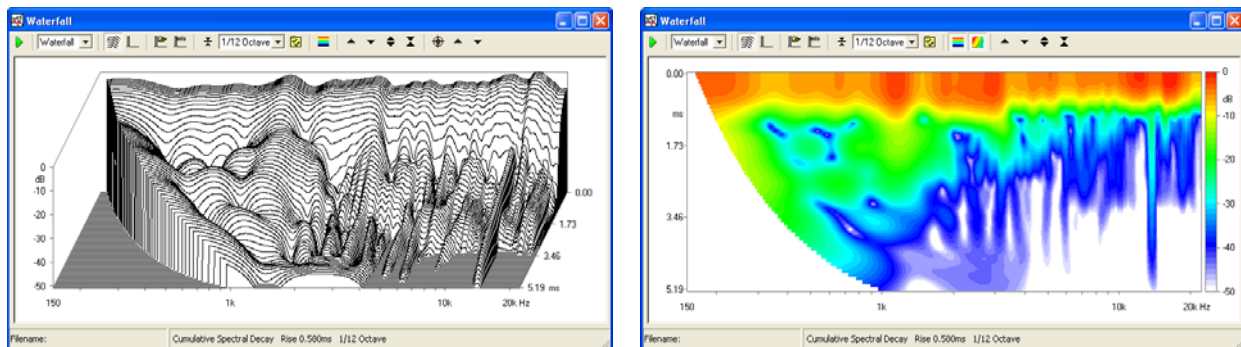

Figure 12.5
-  Enters the Marker mode (see Fig. 12.5). In this operating mode it is possible to inspect the single data points of each waterfall slice by clicking and dragging the mouse.
The Go button is enabled. Press it, you should obtain a waterfall like the one in the left part Fig. 12.5. Press now the Color Scale button followed by the Interpolate Colors buttons, now you should have the color map shown in the right part of Fig. 12.5. The two representations are not exclusive, they mutually complement each other; you will gain experience understanding all the subtle details of a waterfall processing and how they are represented either in the 3D or in the color map. For example the color map represents better the frequency of decaying modes as they result as straight color patterns parallel to the time axis; the 3D waterfall is more familiar when you look at zero time frequency plot and try to visualize how it modifies during decay.